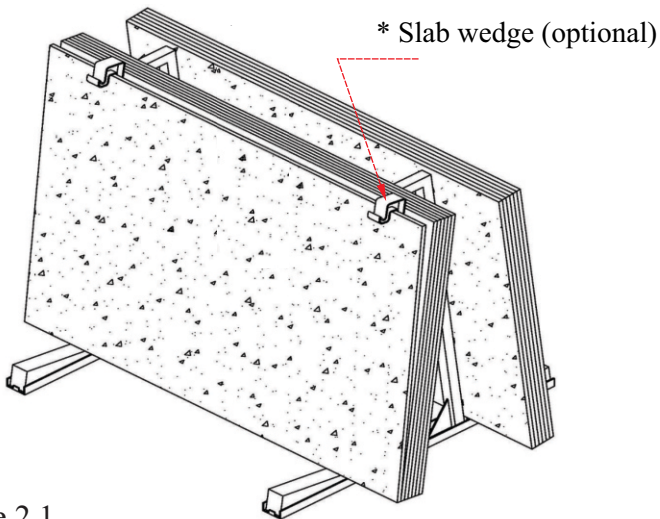

Figure 2.1
**Step 2:** Use slab wedge\* to make a gap between the outer slab and the inner slab (Figure 2.1).